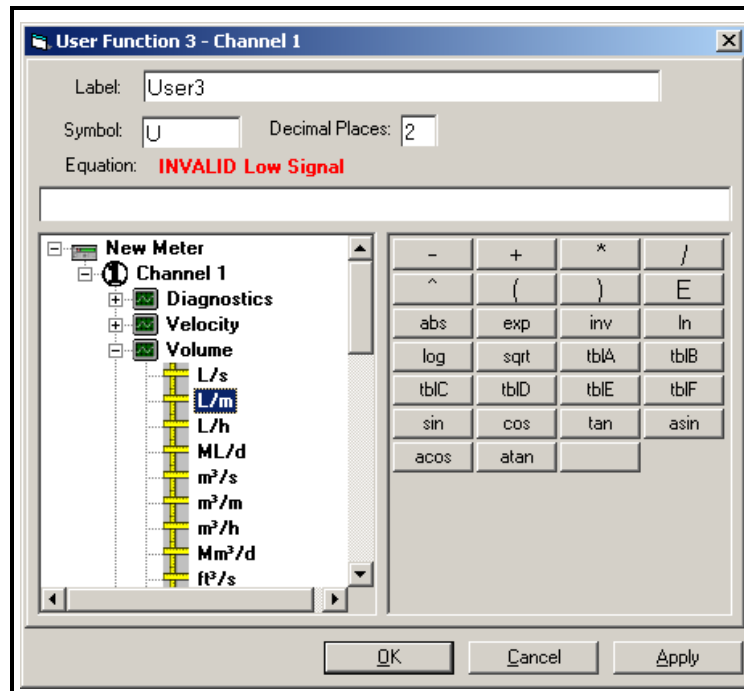

Figure 26: The User Function Window
2. Click on "User Functions," and then double-click on the desired function (1 to 4). The right side of the screen appears similar to Figure 26 below.